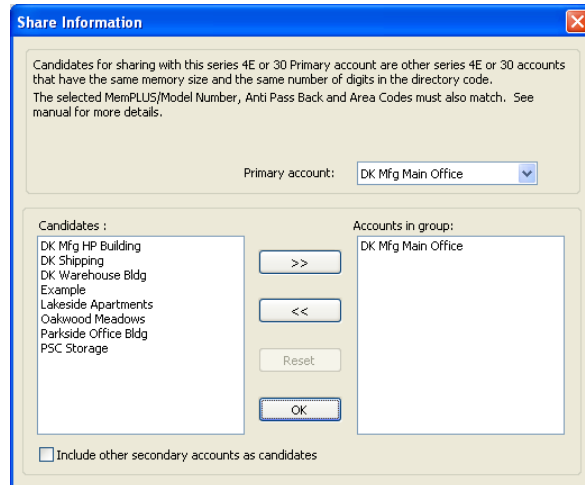

Figure 5
1. From the accounts screen, click the account name that is the primary account, then click the SHARE INFO icon in the tool bar. The share info screen will appear with the primary account listed in the accounts group (Fig 5). In the example, DK Mfg Main Office was selected as the primary account. Notice that this account name is shown as the primary account in the upper right hand corner of the share information window, and that this account is listed in the "Accounts In Group" window on the right side of the screen. To change the primary account, click the arrow button on the primary account window, then scroll up or down and select a new primary account.